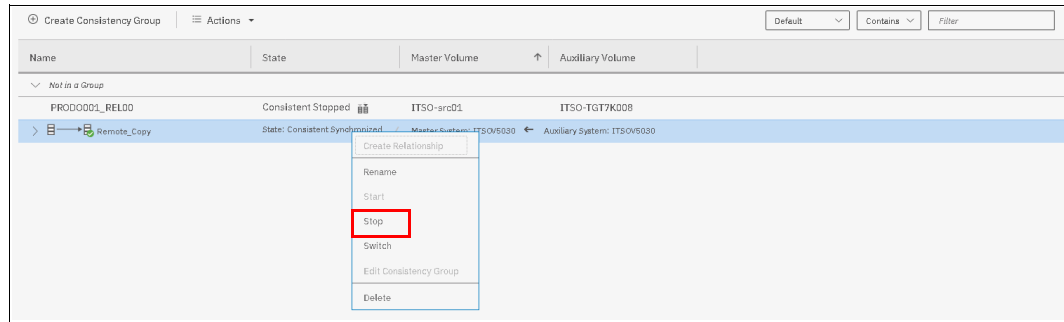

Figure 10-120 Selecting the Stop option
- In the table, select the Consistency Group to stop and right-click **Stop** (as shown in Figure 10-120 on page 588) to stop the remote copy Consistency Group.